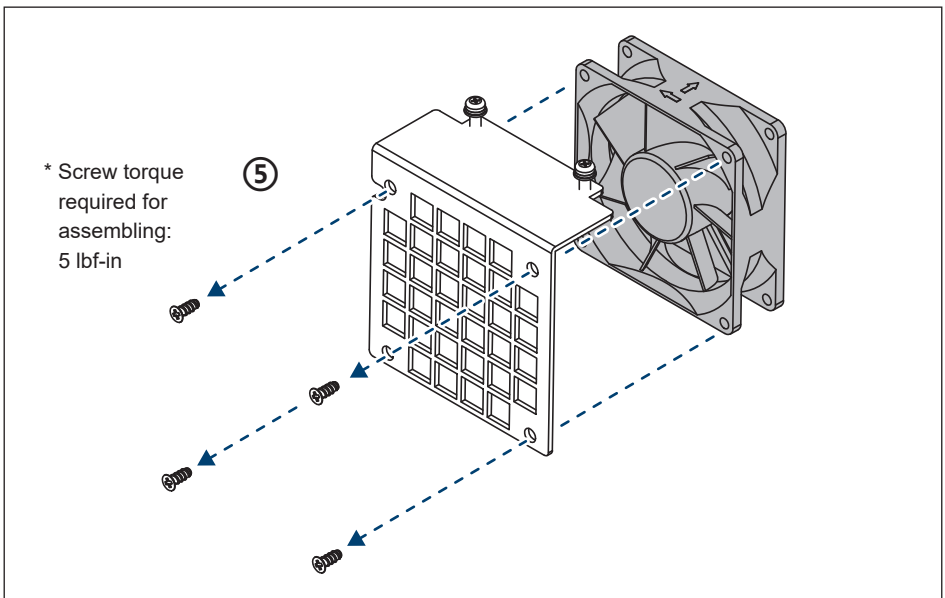

Figure 5-15: Replace with a new fan
- (5) Clean assembly or replace with a new fan. (shown in **Figure 5-15**)
- (6) Reassemble using a tightening torque of recommended.